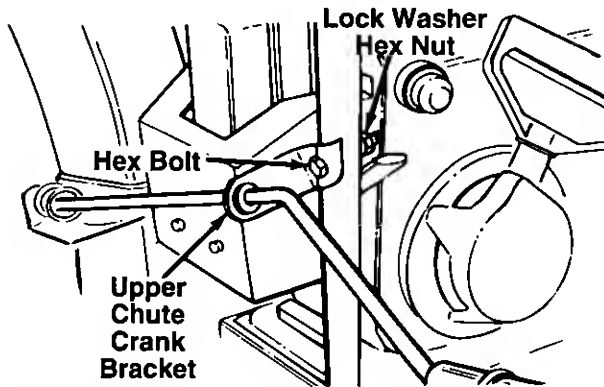

FIGURE 4.
1. Insert hex bolt through the upper chute crank bracket. See figure 4.